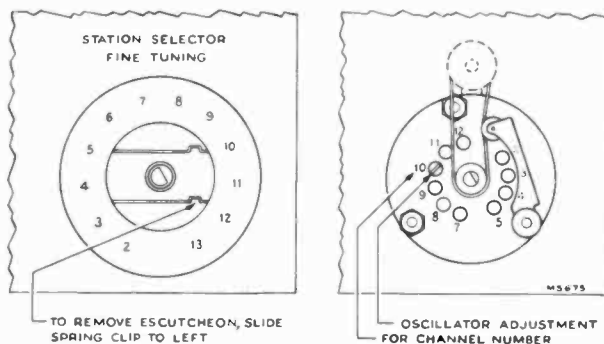

Figure 7—R-F Oscillator Adjustments
**CHECK OF R-F OSCILLATOR ADJUSTMENTS.**— Tune in all available stations to see if the receiver r-f oscillator is adjusted to the proper frequency on all channels. If adjustments are required, these should be made by the method outlined in the alignment procedure. The adjustments for channels 2 through 5 and 7 through 12 are available from the front of the cabinet by removing the station selector escutcheon as shown in Figure 7. Adjustment for channel 13 is on top of the chassis and channel 6 adjustment is in the kinescope well.